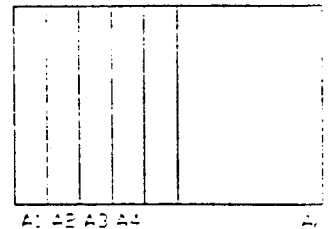

Figure 12
3. Press and rotate the Encoder to adjust H-Linearity is best. (See Fig 12).